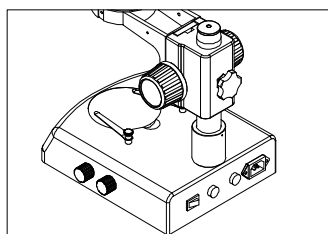

Fig.2
2) The suitable position of tightness can make the adjustment more comfortable and prevent the focusing bracket from slipping down by its weight during the observation. (Fig.2)